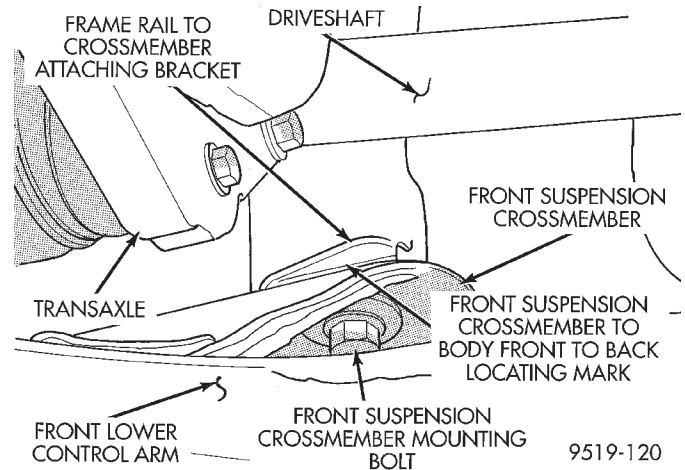
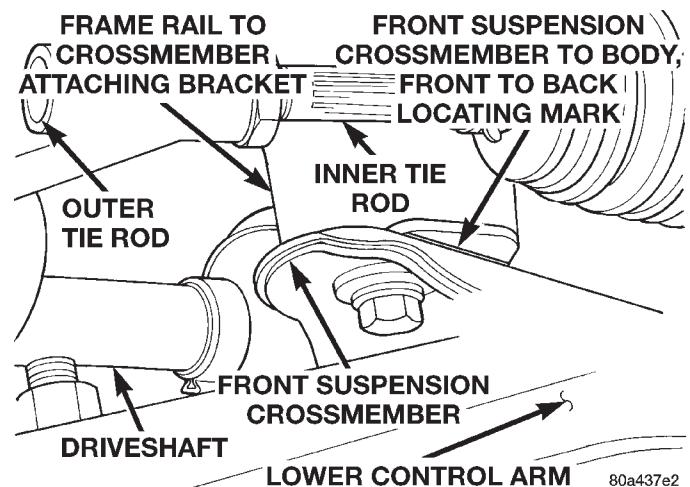
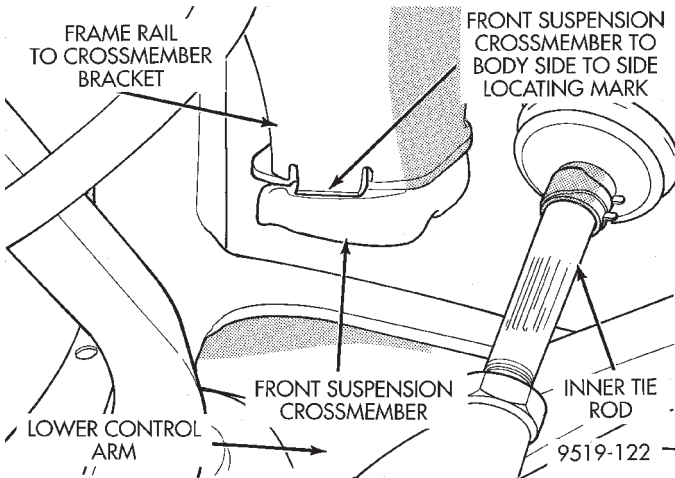

Fig. 9 Front Suspension Crossmember Front To Back Locating Mark (Left Side Front)
Fig. 10 Front Suspension Crossmember Front To Back Locating Mark (Left Side Rear)
Fig. 11 Front Suspension Crossmember Side To Side Locating Mark
(8) Using an awl, scribe a line on the body (Fig. 9) and (Fig. 10) marking the front to back installed location where the front suspension crossmember is mounted against the body of the vehicle. The line should be scribed at both the front and back of where the crossmember is mounted to the vehicle and on each side of the vehicle. In (Fig. 9) and (Fig. 10) the left side of the vehicle is shown.
(9) Using an awl, scribe a line on the front suspension crossmember (Fig. 11) marking the side to side installed location where front suspension crossmember is mounted against the body of the vehicle. The line should be scribed at the side of the frame rail bracket (Fig. 11) where the crossmember is mounted to the vehicle. The locating mark is to be marked the same on each side of the vehicle. In (Fig. 11) the left side of the vehicle is shown.
(4) Using a soft face hammer, tap front suspension crossmember into position, until it is aligned with the previously scribed positioning marks on body of vehicle (Fig. 9), (Fig. 10) and (Fig. 11). When front suspension crossmember is correctly positioned, torque the 2 rear crossmember mounting bolts to 163 N·m (120 ft. lbs.). Then torque the 2 front crossmember to frame rail attaching bolts to 163 N·m (120 ft. lbs.).